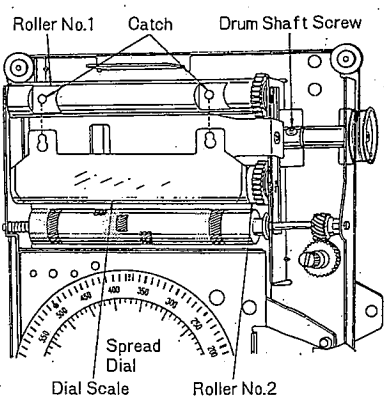

Fig. 10
3. Loosen the one (1) screw for the drum shaft, as shown in fig. 10.
5. Wind the dial scale onto roller no. 2 shown in fig. 10 and secure the gear of roller no. 2 on the catch of roller no. 1, as shown in fig. 10.